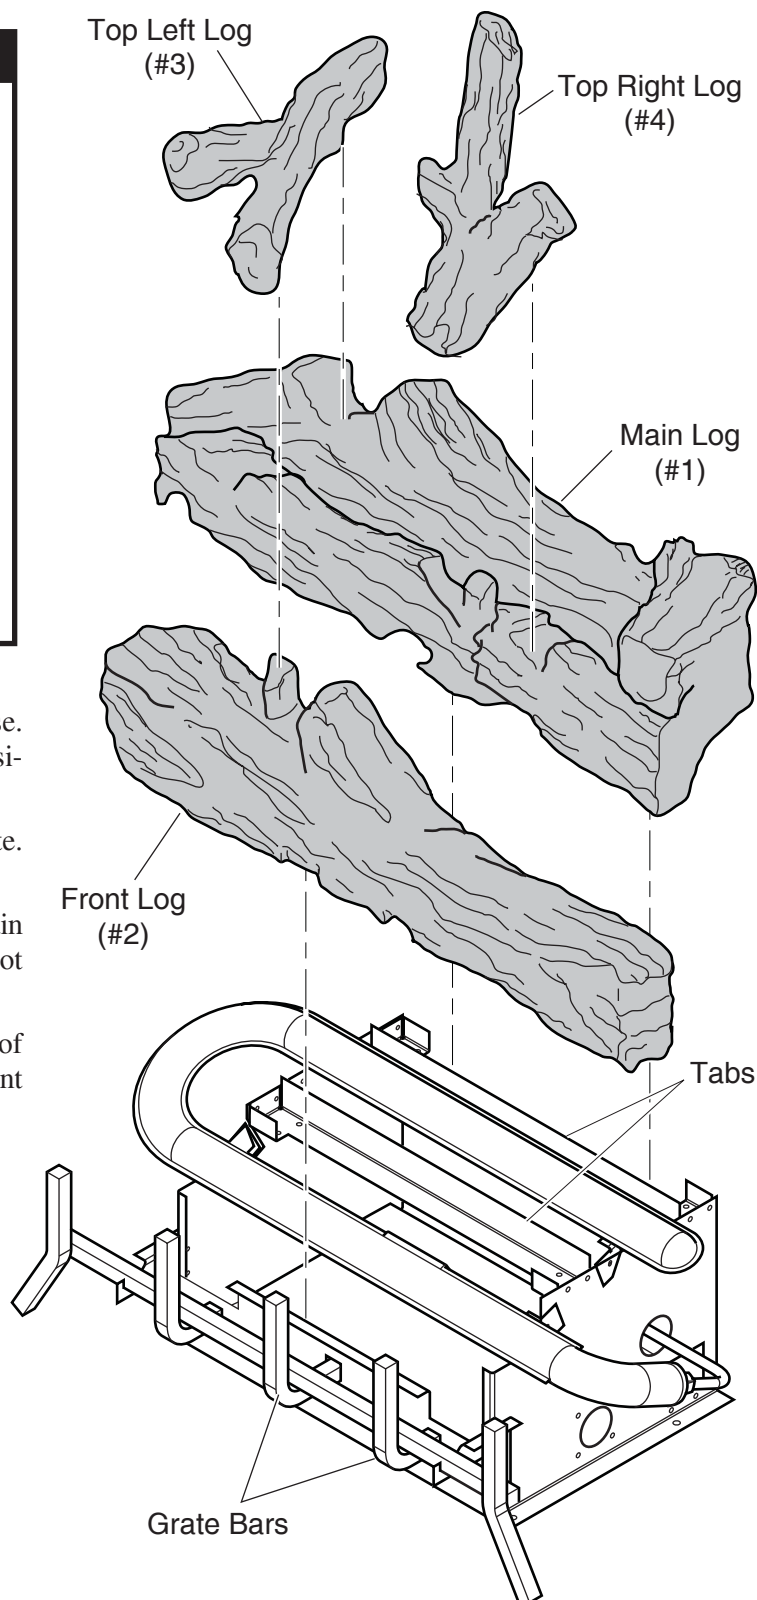

Figure 18 - Installing EYF24-F Logs on Burner
1. Install Main Log (#1) on middle and rear supports of base. Tabs should fit inside log center opening. Check log position and stability. *See Figure 18.*
2. Install Front Log (#2) in front of burner and behind grate. *See Figure 18.*
3. Rest rear end Top Left Log (#3) in the indentation on the main log. Line up hole in bottom of Top Left Log (#3) with slot on Front Log. *See Figure 18.*
4. Position rear end of Top Right Log (#4) on indentation of main log. Rest front end of Top Right Log (#4) on front lot. *See Figure 18.*